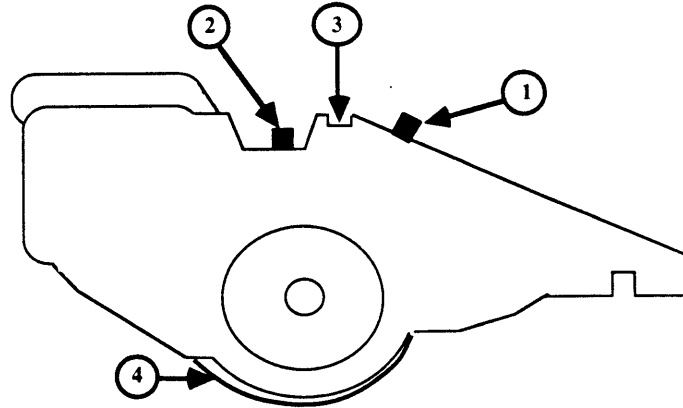

FIGURE 1
Inspect the light-blocking shutters (Figure 1, #1 and #2). Open and close them a few times in a low-light area to make sure they are not jammed or broken.
To clean the primary corona wire (Figure 1, #3):
2. Insert the wire cleaner into the long slot of the toner cartridge (between the two shutters), and move it back and forth in the slot (Figure 1, #3).
The photosensitive drum is protected by a shield (Figure 1, #4) that closes when the cartridge is removed from the printer. Toner buildup on the shield may cause smudging on prints.